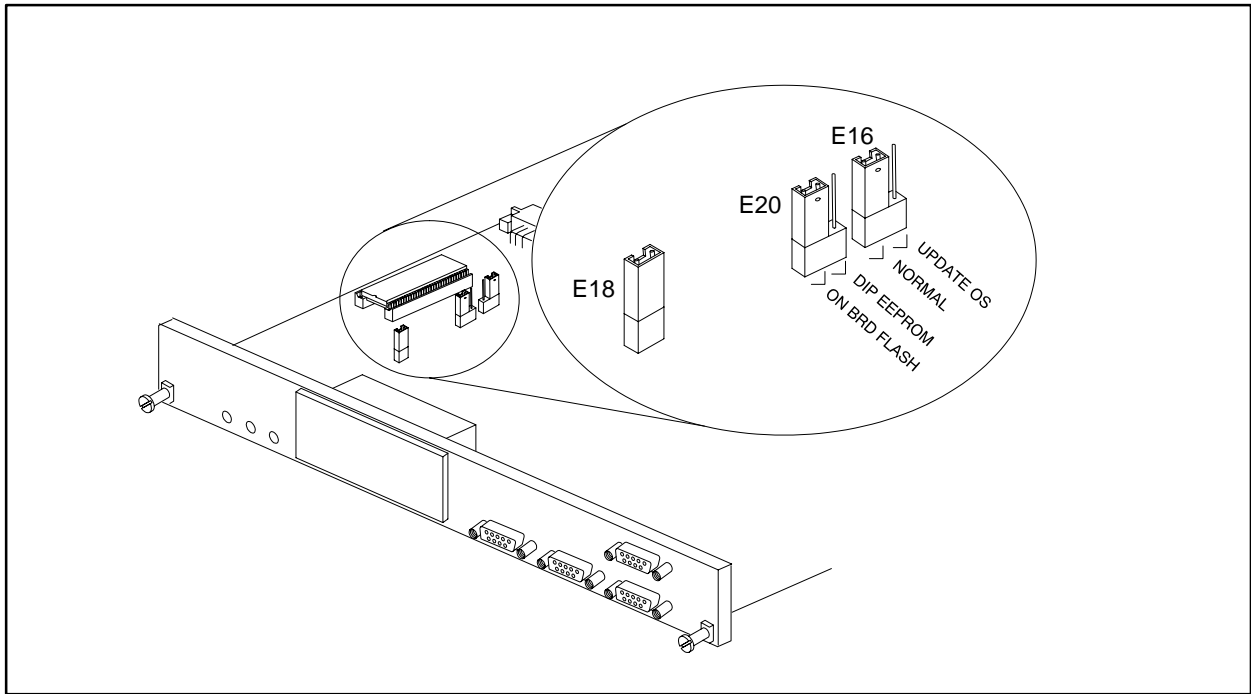

Figure 7-3 Jumper Pin Settings for On-Board Memory Program Storage
6. Set the jumper on header E20 to strap the pins marked “ON BRD FLASH” (on-board flash memory) as shown in Figure 7-3.
7. Re-install the CPU in the base and turn the base power On. Refer to Chapter 9 of this manual if the (E)EPROM fails to function correctly.